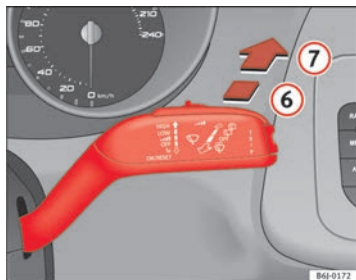

Fig. 64 Windscreen wiper and windscreen wash lever: rear window wiper
- Press the lever forwards to position 6 ⇒ fig. 64. The wiper will wipe the window approximately every 6 seconds.
- Press the lever fully forwards to position 7 ⇒ fig. 64. The rear wiper and washer operate at the same time. The windscreen wash system will function as long as you hold the lever in this position.